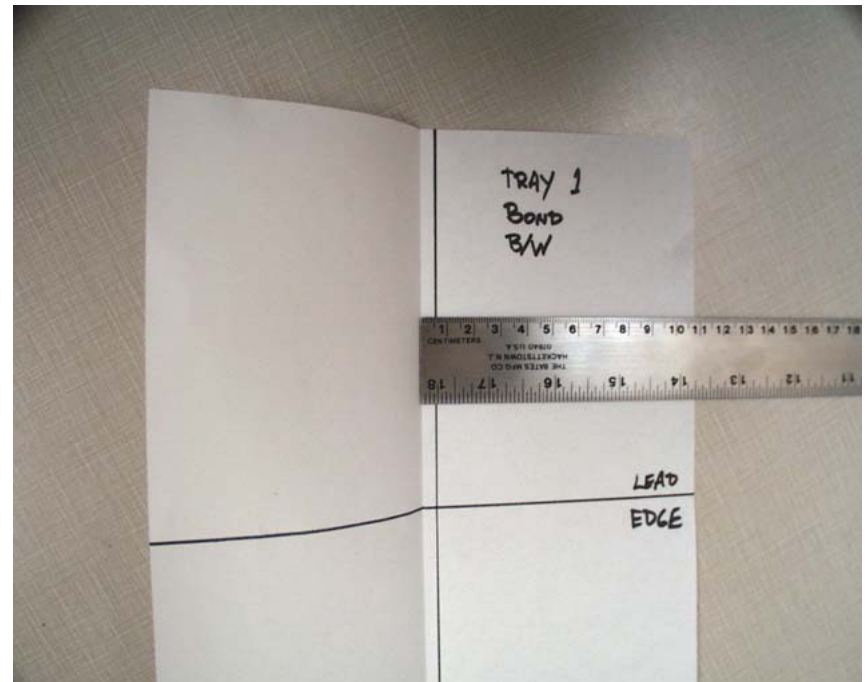

Figure 3 Measuring the distance to move the image
11. If not, measure and record the direction and distance the image need to be moved to align them with the folds. (Figure 3)